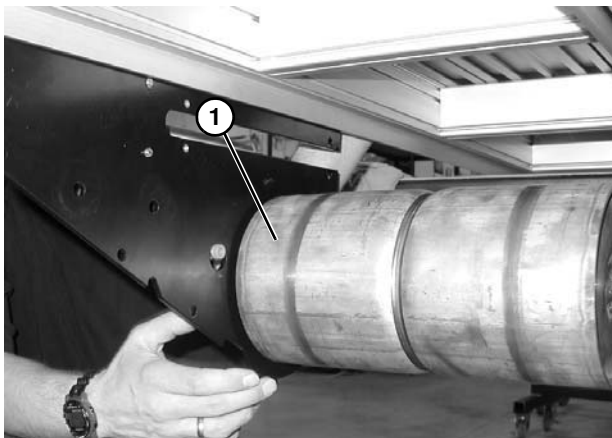

Figure 175
11. Slide drive pulley (Figure 175, item 1) out of attached side plate.